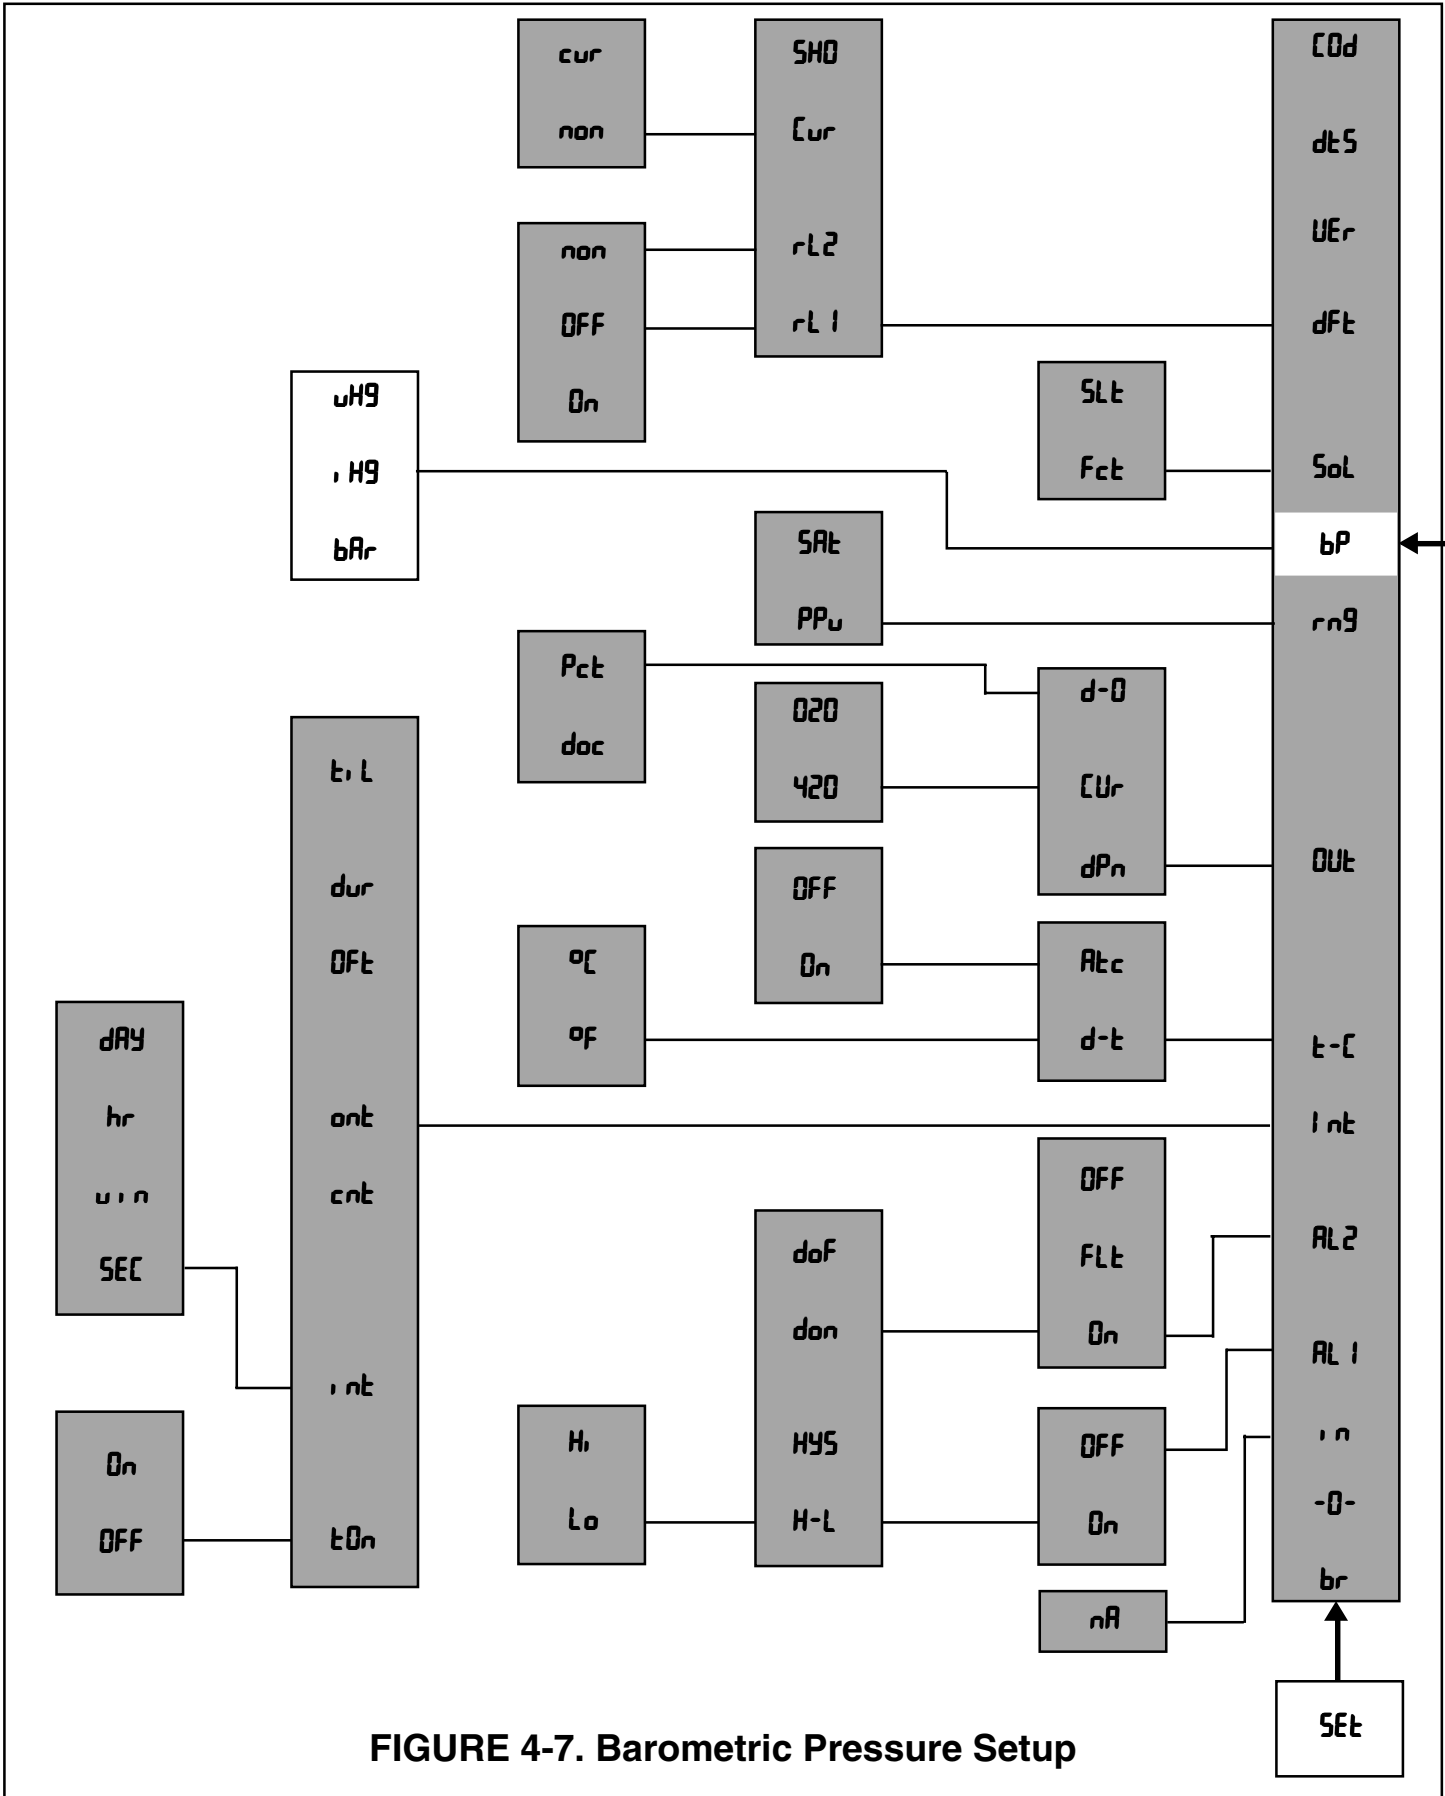

FIGURE 4-7. Barometric Pressure Setup
4.7.1 Barometric Pressure Unit Set Up “bP”. Refer to Figure 4-7.